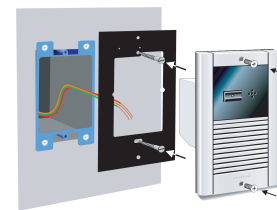

Figure 9
4. **Gang-box only:** Attach the interface bracket to the gang-box using ☐ screws (not supplied) (see Figure 9).